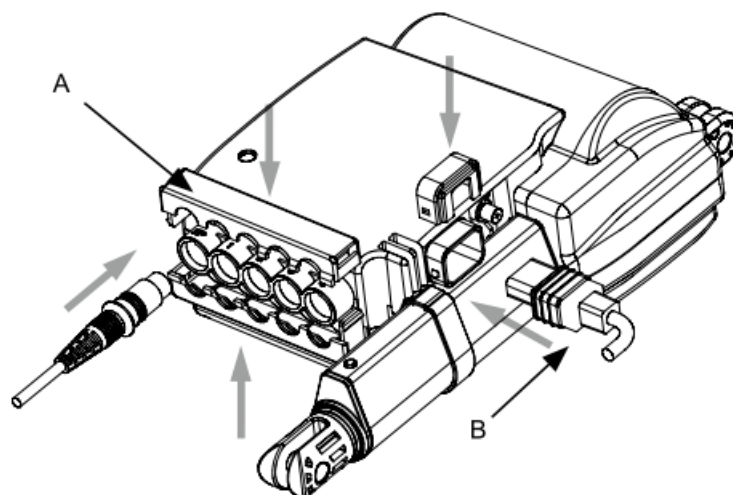

Fig. 3
- b. After inserting connectors of an actuator and a key box, vertically insert back the fixer on LAK4D controller (A), and then fasten the up fixer and down fixer on LAK4D controller (Fig. 3). Before inserting the main power cord, rotate out the locker (B) along the arrow direction to insert power cord (Fig. 3) and then pull it back (Fig. 3) along the arrow direction.